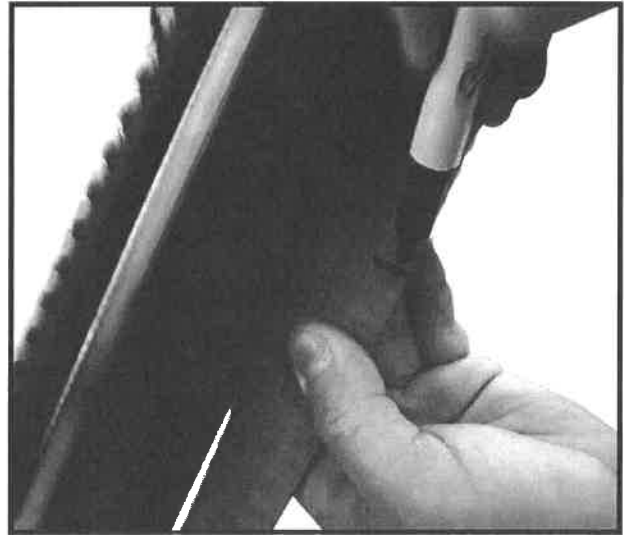

Figure 39 - Marking the Starting Point for Sanding the Belt
3. Roll the belt away from the track and mark the inner surface with a permanent marker to identify the starting point for sanding (Figure 39).